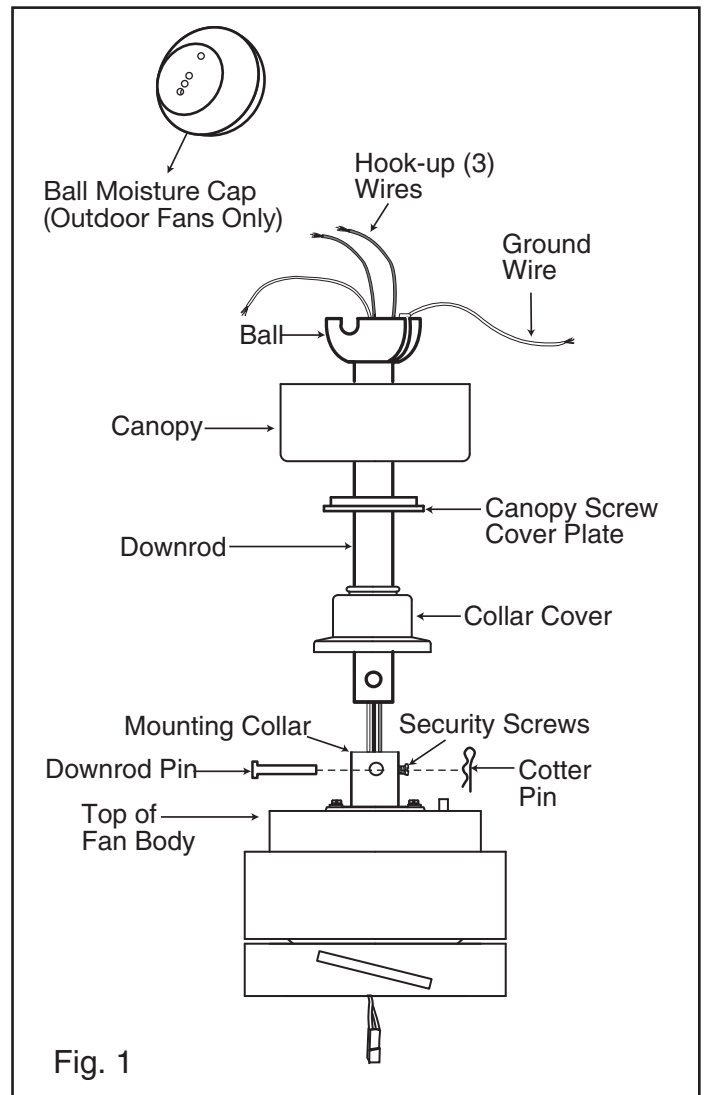

Fig. 1
2. Loosen the two set screws and remove the downrod pin and cotter pin from the top coupling of the motor assembly. (Fig. 1)
NOTE: This remote control unit is equipped with 16 code combinations to prevent possible interference from or to other remote units. The frequency switches on your receiver and transmitter have been preset at the factory. Please recheck to make sure the switches on transmitter and receiver are set to the same position, any combination of settings will operate the fan as long as the transmitter and receiver are set to the same position. (Fig. 1)
1. Remove one of the three screws on the mounting hub located on the fan motor. Loosen the other 2 screws. (Do not remove) (Fig. 1)
Install 9 Volt battery (included). To prevent damage to transmitter remove the batteries if not used for long periods of time. (Fig. 1)